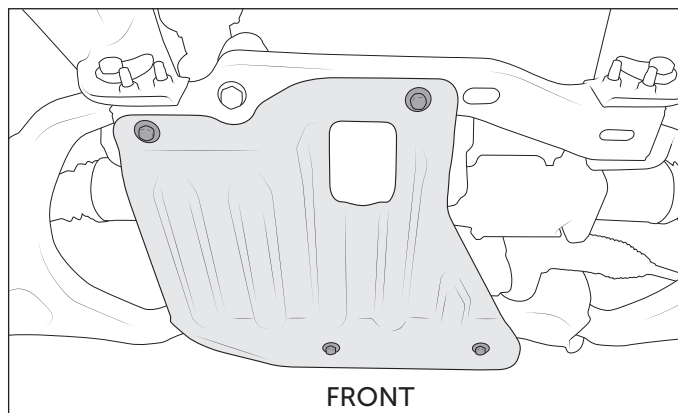

Figure 2
3. Hold AEV Engine Skid in place on cross members and install with four M10 bolts (fig. 2).
3. Hold AEV Engine Skid in place UNDER the rear edge of the factory splash guard and install with four M10 bolts (fig. 2). **NOTE:** Be careful to not over torque (these are self tapping bolts and will strip)